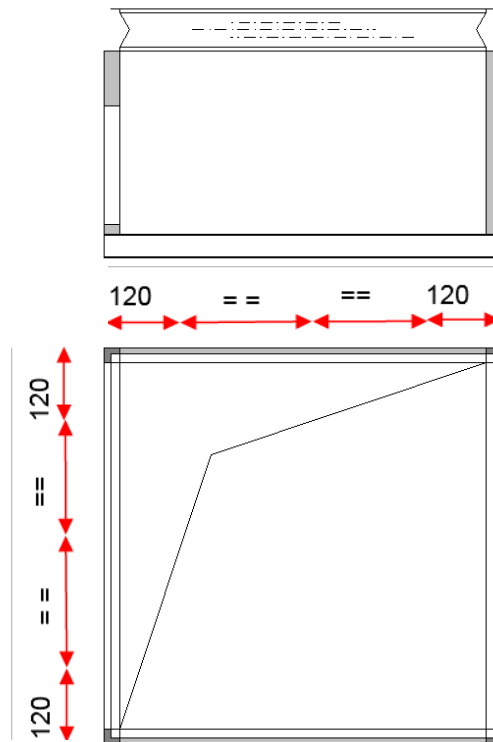

Figure 179: Information on the screw distance
- additional number of screws see **Table 7** and **Figure 179**.